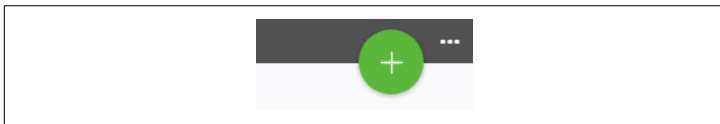

Figure 3-2. Creating a new project
2. Click the green plus in the upper-right corner to create a new project (Figure 3-2).